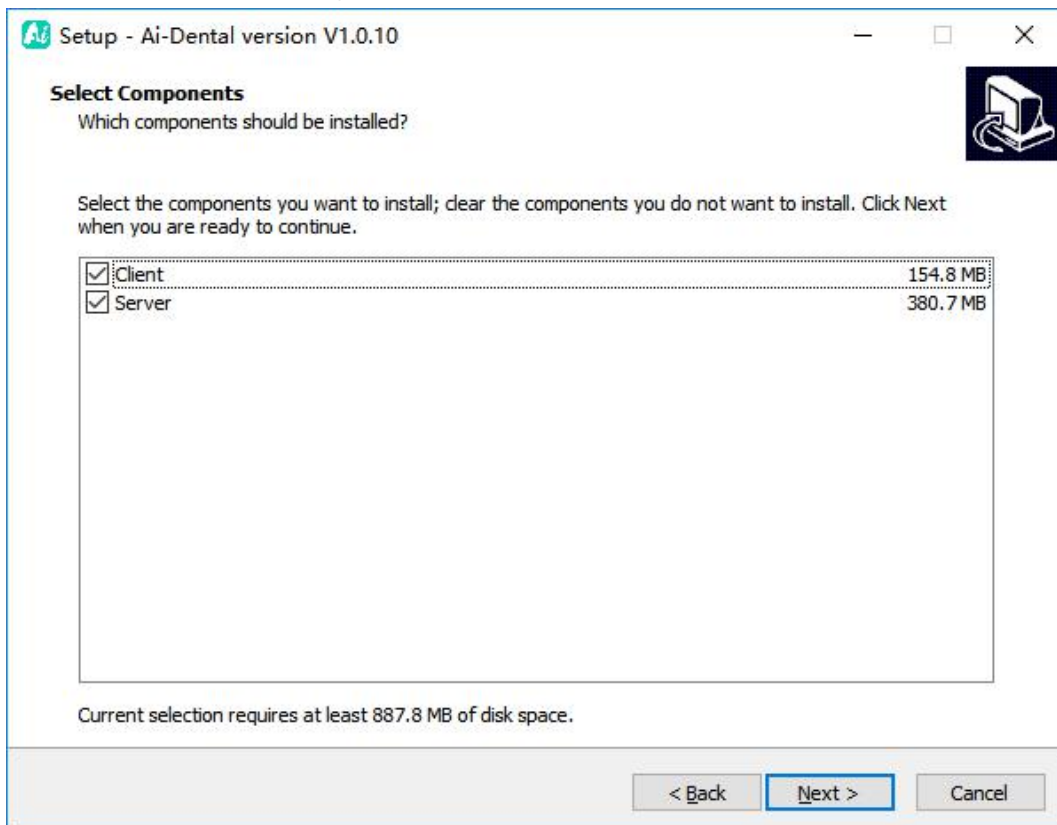

Figure 5
3.1.5 Select components. The user selects the corresponding component as needed, and then click the “Next” button, as shown in Figure 5: